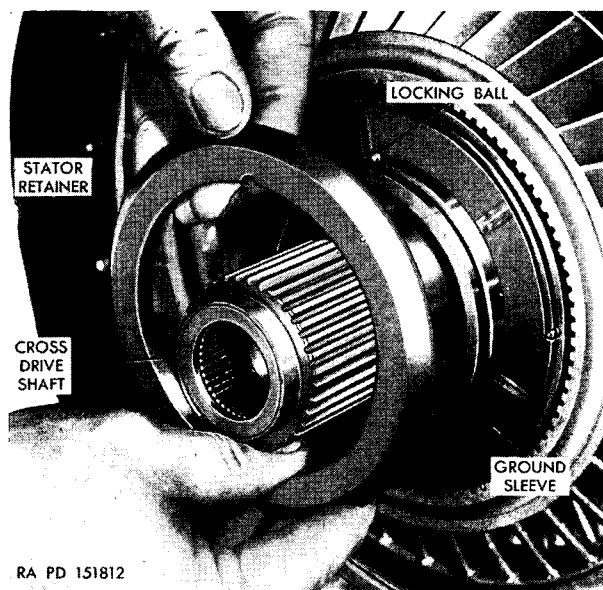

Figure 73. Removing or installing stator retainer.
- (6) Remove the stator retainer (fig. 73).